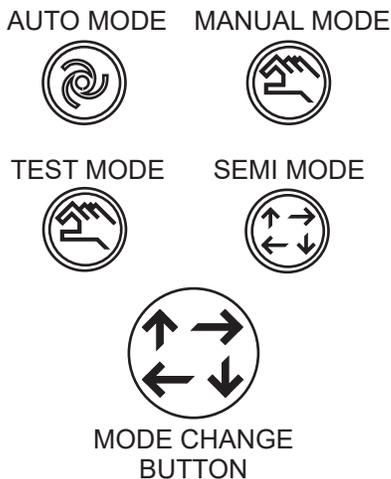

Figure 54. Operational Mode Buttons
2. Verify that the four **Operational Mode buttons** (Figure 54) are displayed just above the **Mode Change button**.